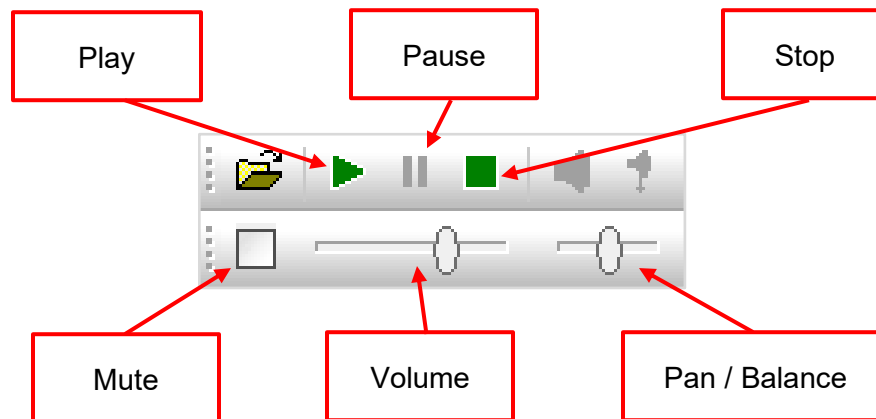

Figure 15 Playback Controls in PGS Audio Player
- (4) Use the various playback controls to review the audio data (see *Figure 15* for playback control definition).